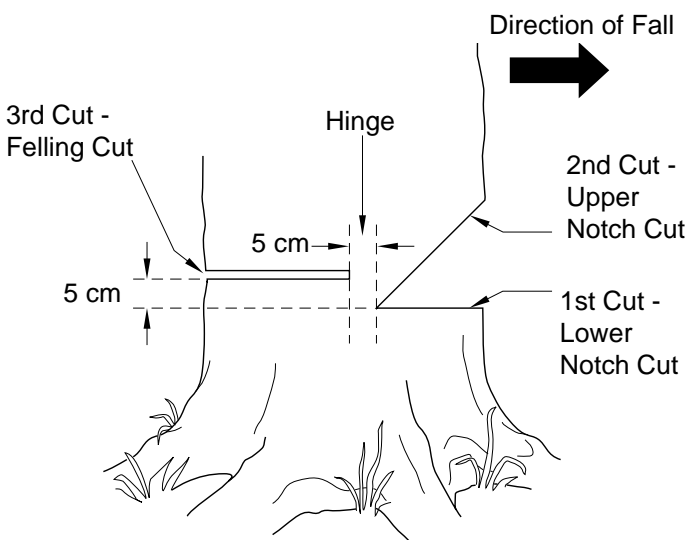

Figure 13 - Felling A Tree
A properly placed felling notch will determine direction tree will fall. Place felling notch on side of tree in direction you want tree to fall (see Figure 13). Follow directions below to create a felling notch.
1. Make lower notch cut as close to ground as possible. Hold saw so guide bar is horizontal. Cut 1/3 the diameter of tree trunk (see Figure 13). **Note:** Always make this horizontal lower notch cut first. If you make this cut second, tree can pinch chain or guide bar.
Example: If lower notch cut is 20 centimeters deep, start upper notch cut 20 centimeters above it. Cut downward at 45° angle. The upper notch cut should meet end of lower notch cut (see Figure 13).
1. Make felling cut five centimeters higher than lower notch cut and on opposite side of tree (see Figure 13). Keep felling cut parallel to lower notch cut.
Do not cut all the way through tree. Leave about five centimeters of tree diameter uncut directly behind felling notch (see Figure 13). This uncut portion acts as a hinge. The hinge helps keep tree from twisting and falling in wrong direction.